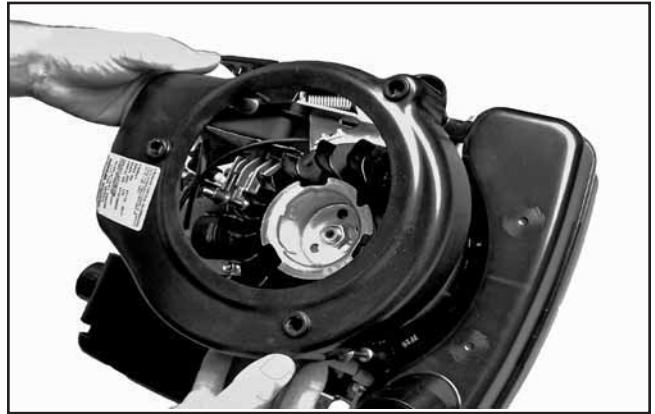

Figure 10-57. Installing Blower Housing.
1. Install the blower housing onto the studs. See Figure 10-57.